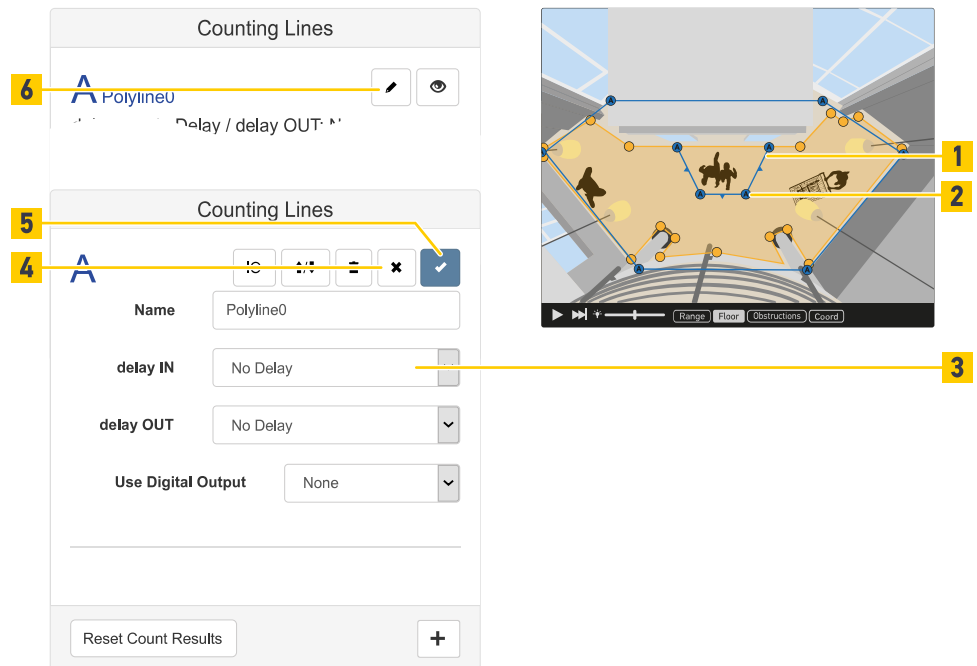

Fig. 74: Configuration options
1. To go to the next input field (Fig. 74 /3) or button click in an input field or use the `<tab>` key.
3. To apply the new settings click the ☒ button (Fig. 74 /5). To revert to previous settings click the ☐ button (Fig. 74 /4).
1. Click the ☒ button (Fig. 74 /6).
2. To move a polygon point (Fig. 74 /2) click and hold it.
4. To add a new polygon point double click a polygon line (Fig. 74 /1).
5. To apply the new settings click the ☒ button (Fig. 74 /5). To revert to previous settings click the ☐ button (Fig. 74 /4).